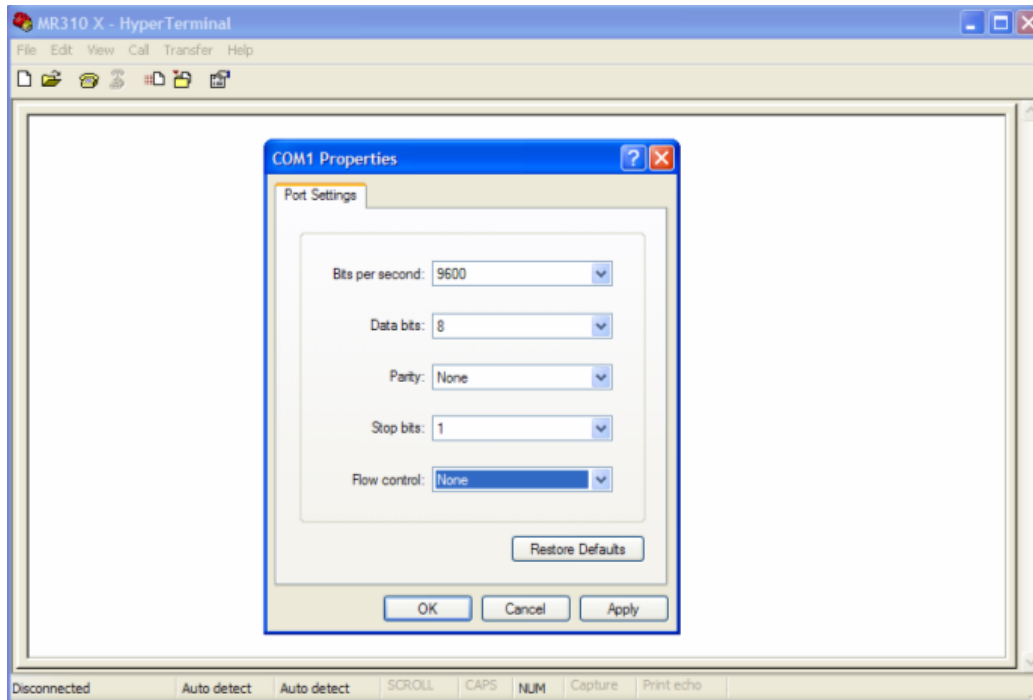

Figure 21. Set-up Parameters for HYPERTERMINAL Program.
- STEP 2: Now start up WINDOWS *Hyperterminal* on your PC. Type in any character and you should see that character being echoed back on the *Hyperterminal* screen. As shown in Figure 21, configure *Hyperterminal* with the proper communication settings - -
- STEP 3: If the above is successful, then we know that the computer does send out and receive back signals properly through the cable. Verify again that the *Hyperterminal* communication settings (see Figure 21) have been set correctly for communicating with the MR310 because *Hyperterminal* can send and receive with any mix of settings.